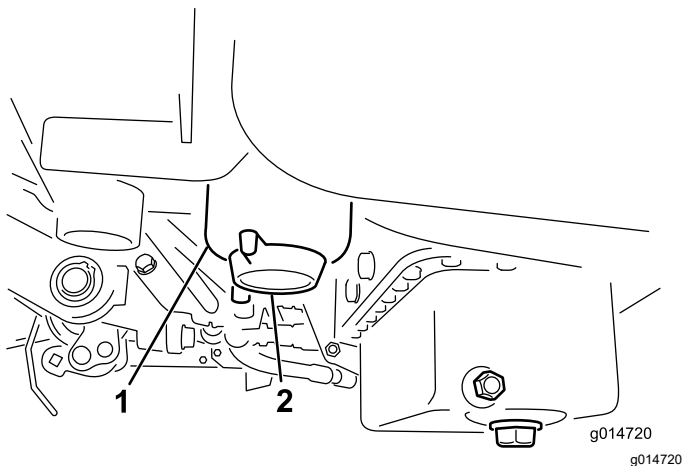

Figure 44
3. Open the drain plug on the fuel filter approximately one turn and drain any accumulated water (Figure 44).